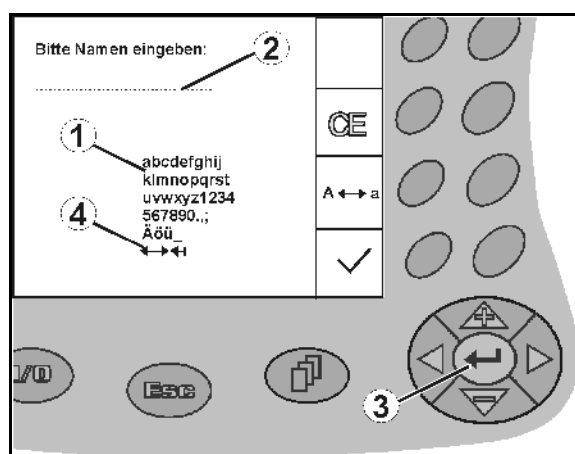

Fig. 12
If it is necessary to enter texts or numbers on the **AMATRON⁺**, the input menu (Fig. 12).
In the lower part of the display, a selection field (Fig. 12/1) appears with letters, numbers and arrows which can be used to compose the input line (Fig. 12/2).
Choose letters or numbers in the selection field (Fig. 12/3).
-  Confirm the selection (Fig. 12/3).
The arrows  in the selection field (Fig. 12/4) allow movement in the text line.
The arrow  in the selection field (Fig. 12/4) deletes the last entry.